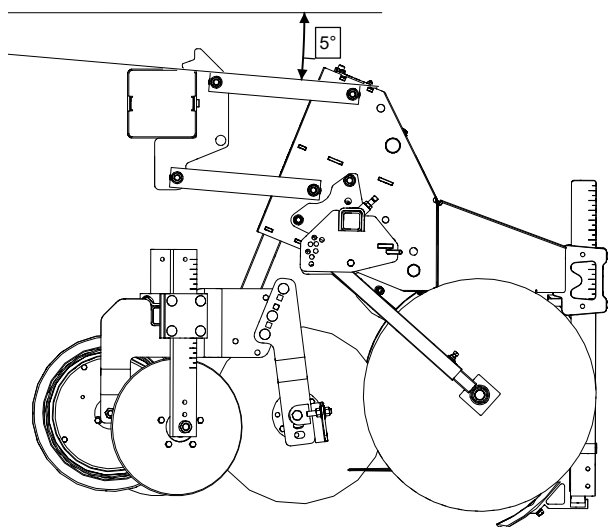

Figure 31 Operating Position
2. Adjust tractor 3-point hitch and frame gauge wheels so that cultivator linkage operates approximately 5 degrees from level as shown in Figure 31.